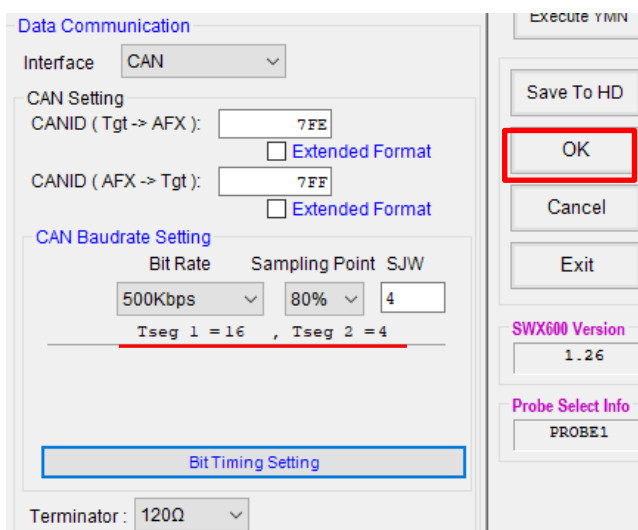

Figure 2
3. Press OK button (Figure 2, red frame) to apply the settings to AFX.
If the value is not in the list of default values, "Bit Rate" and "Sampling Point" are shown as non-selective status, but you can confirm the set value in the text display (Figure 2, underlined in red)..